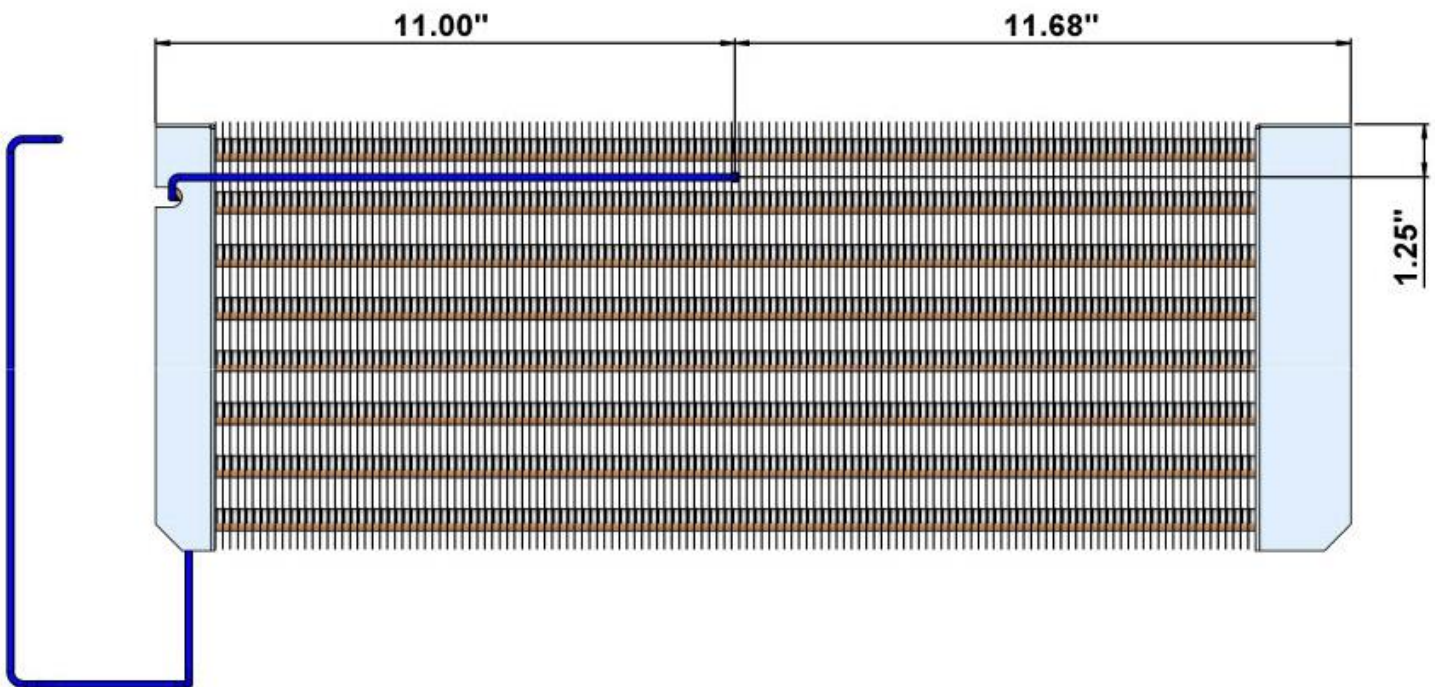

Figure 42 Refrigerator (electric defrost-with heater) Sensor Location.
Use a #2 Phillips screwdriver to remove the (3) screws (See Figure 42) and lift on bracket.